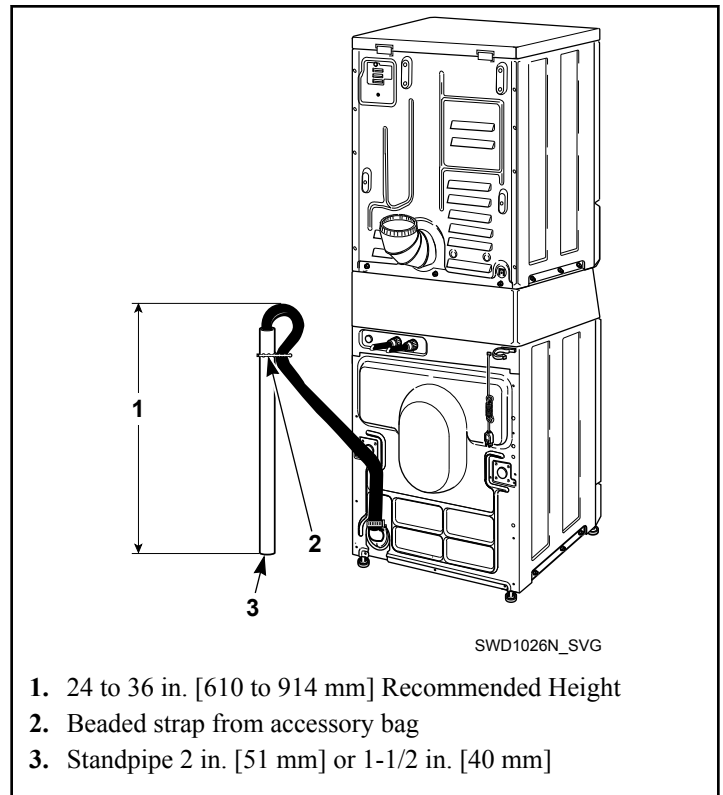

Figure 8
2. Remove the beaded tie-down strap from accessories bag and place around standpipe and drain hose and tighten strap to hold hose to standpipe. Refer to *Figure 8*. This will prevent